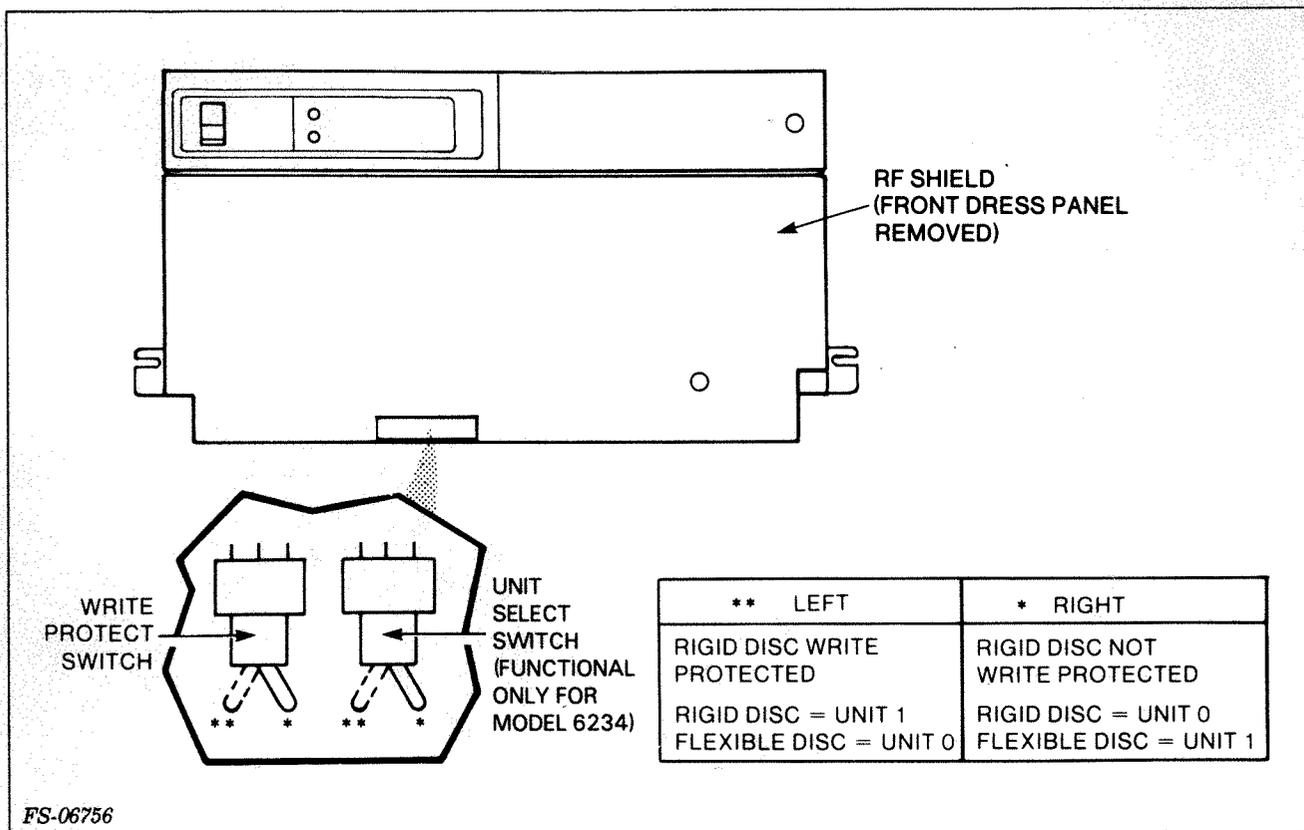

Figure 2-2. Unit Select and Write Protect Switches
- **UNIT SELECT** - When this switch is set to the right, the normal position for the switch, (see Figure 2-2) the disk drive is addressed as unit 0. This switch should always be set to the right-hand position with the following exception. If an optional flexible drive is connected to a 6234 disk subsystem then the UNIT SELECT switch can be set to the left-hand side, allowing the flexible drive to boot a program. After booting the program from the diskette, return the switch to the normal position. If the disk subsystem is a 6280, the UNIT SELECT switch is nonfunctional.